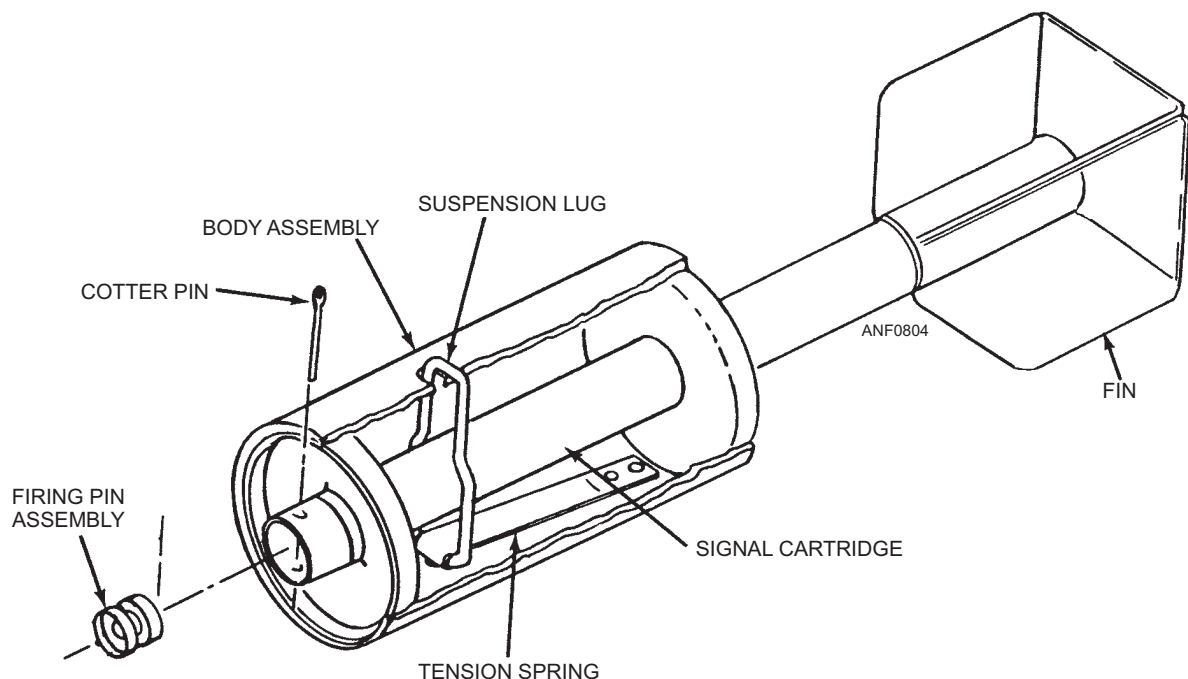

Figure 8-4.—BDU-48/B practice bomb.
**BDU-48/B.**—The 10-pound BDU-48/B practice bomb (fig. 8-4) is a thin-cased cylindrical bomb used to simulate retarded weapon delivery. The bomb is composed of the bomb body with a bore tube for the installation of a single cartridge, a spring-loaded retractable suspension lug, firing device, and box-type fin assembly. The bomb is painted blue with identification nomenclature stenciled in white letters on the body.